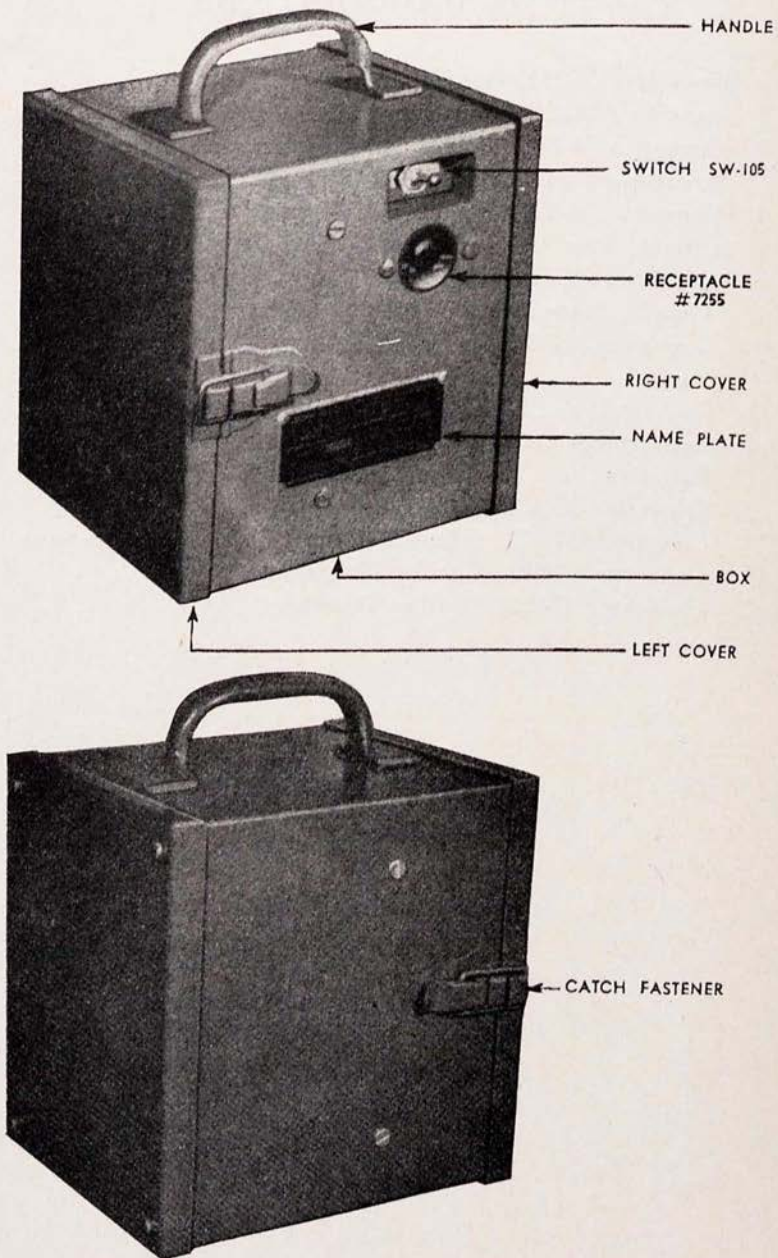
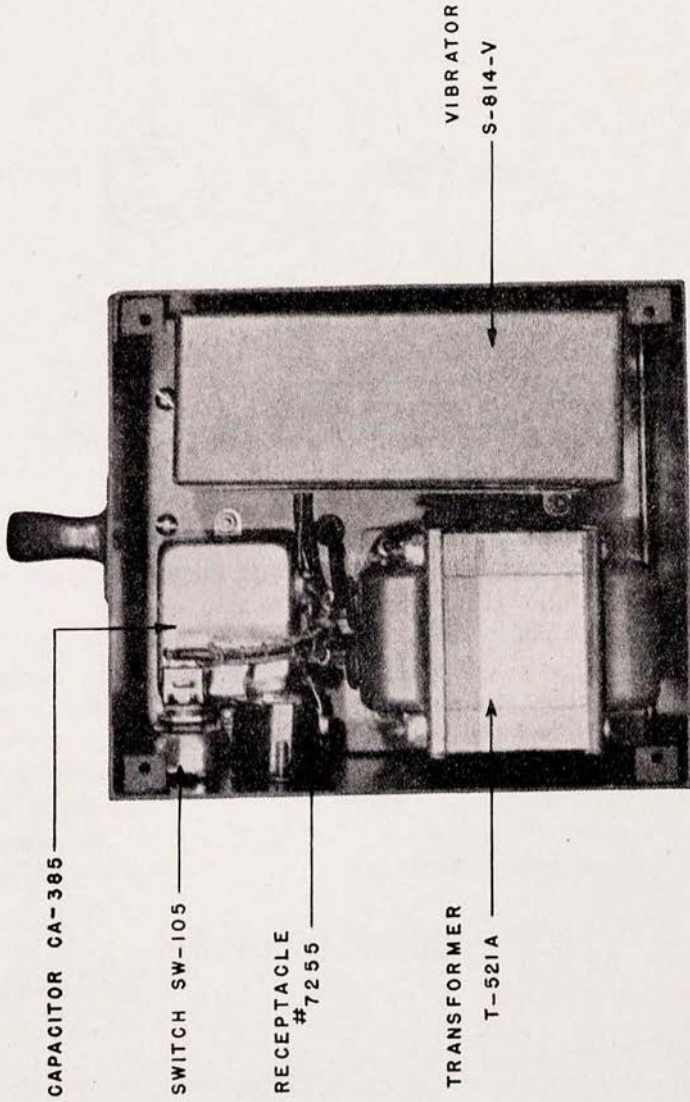

FIG. 1 CONVERTER M-22, OUTSIDE VIEWS
FIG. 7 CONVERTER M-222, INSIDE OF CHASSIS
one 1- μ f Capacitor CA-234, and one vibrator (S-814-V). The vibrator is encased in a metal box and is held in place by two steel clips which are welded to the cover. The vibrator (S-814-V) plugs into a six prong socket (MIP6). A phenolic strip is mounted on the under side of the mounting shelf assembly directly under Capacitor CA-234. The mounting shelf assembly is fastened to the box by means of four No. 6-32 flat top, binding head screws. (See figure 7.)
b. *Box.*—The box (refer to figures 1 and 7) is a rectangular, steel box with two opposite sides removable. On the front is mounted one receptacle (No. 7255), one name plate, the lower section of one catch fastener, and one Switch SW-105. The switch is mounted in a recessed panel. The positions of the switch, ON and OFF are marked on this panel as shown in (figure 1.) A handle is welded to the top of the box, and the lower section of the other catch fastener is mounted on the back of the box. The mounting shelf assembly is fastened to this box in the position shown in (figure 7,) which leaves a space on the left hand side for installing batteries.
13. Replacing parts.—*a.* Remove the four No. 8-32 round head steel screws which hold the right cover in place. Remove the right cover. Refer to (figures 1 and 7.)